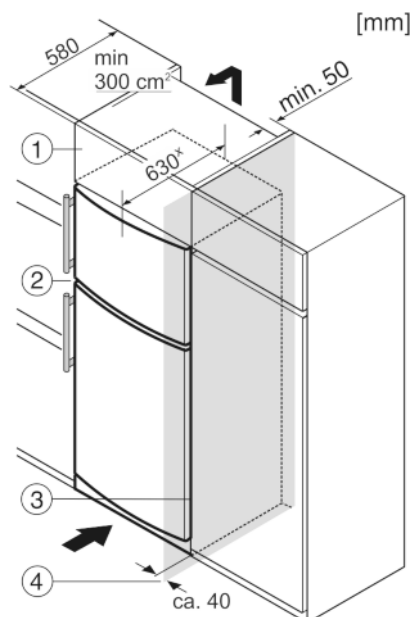

Fig. 7
The appliance can be inserted into a row of kitchen units. To match the appliance Fig. 7 (2) to the height of the row of units, a suitable stack cabinet Fig. 7 (1) can be fitted above the appliance.
When installing with kitchen units (max. depth 580 mm), the appliance can be positioned directly next to the kitchen cabinet Fig. 7 (3). The appliance will project by 34 mmx at the sides and 50 mmx in the centre of the appliance in relation to the kitchen cabinet front.
If the appliance is installed with the hinges next to a wall Fig. 7 (4), the distance between appliance and wall has to be at least 40 mm. This corresponds to the projection of the handle when the door is open.